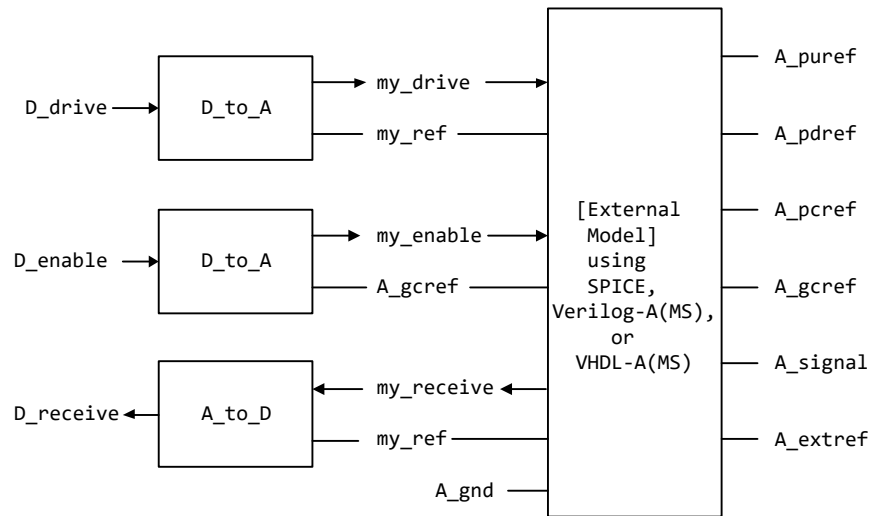

Figure 25 – Multi-lingual [External Model] I/O Buffer
A conceptual diagram of the port connections of a SPICE, IBIS-ISS, Verilog-A(MS) or VHDL-A(MS) [External Model] is shown in Figure 25. The example illustrates an I/O buffer. Note that the drawing implies that the D_receive state changes in response to the analog signal my_receive, not A_signal: